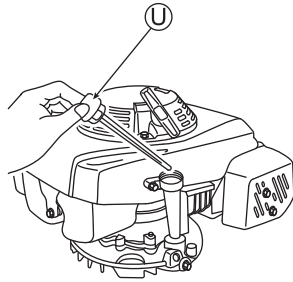

Fig. 8
- 1 Remove Oil tank cap (U), pull out the oil gauge, and then insert it not screwing it. (See Fig. 8)
- 2 Remove Oil tank cap (U), and confirm that the oil level is between the upper and lower limits of the oil gauge.
- 4 Firmly close Oil tank cap (U) after confirmation.